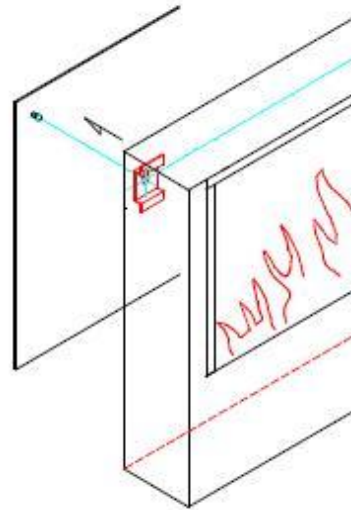

FIG 3
- Lift the fireplace and place the keyhole slots situated on the back of the fire (Figure 2) to the location pins on the mounting plate. A gentle application of downward pressure will lock it into place. Make sure all of the pins have been located into the top section of each keyhole fixing slot. (See Figures 3 & 4)